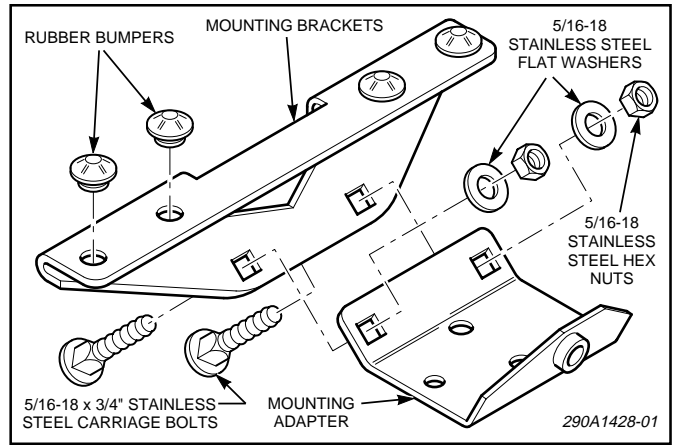

Figure 3.
c. Assemble a mounting adaptor to each mounting bracket with two (each) 5/16-18 x 3/4" square neck carriage bolts, 5/16 flat washers and 5/16-18 hex nuts as shown in figure 3.
d. Insert the four (4) rubber bumpers in the mounting bracket as shown in figure 3.